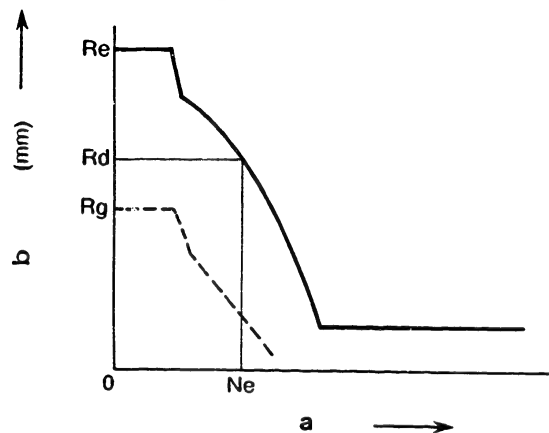

Fig. 160
If idling performance is included in calibration data, as represented by the dotted line in Figure 160, adjust the setting of the idle adjusting screw (50).
2. Under the above conditions, loosen the idle adjusting screw (50) and adjust it so that the control rod position is "Rg" (refer to Figs. 160 and 161).